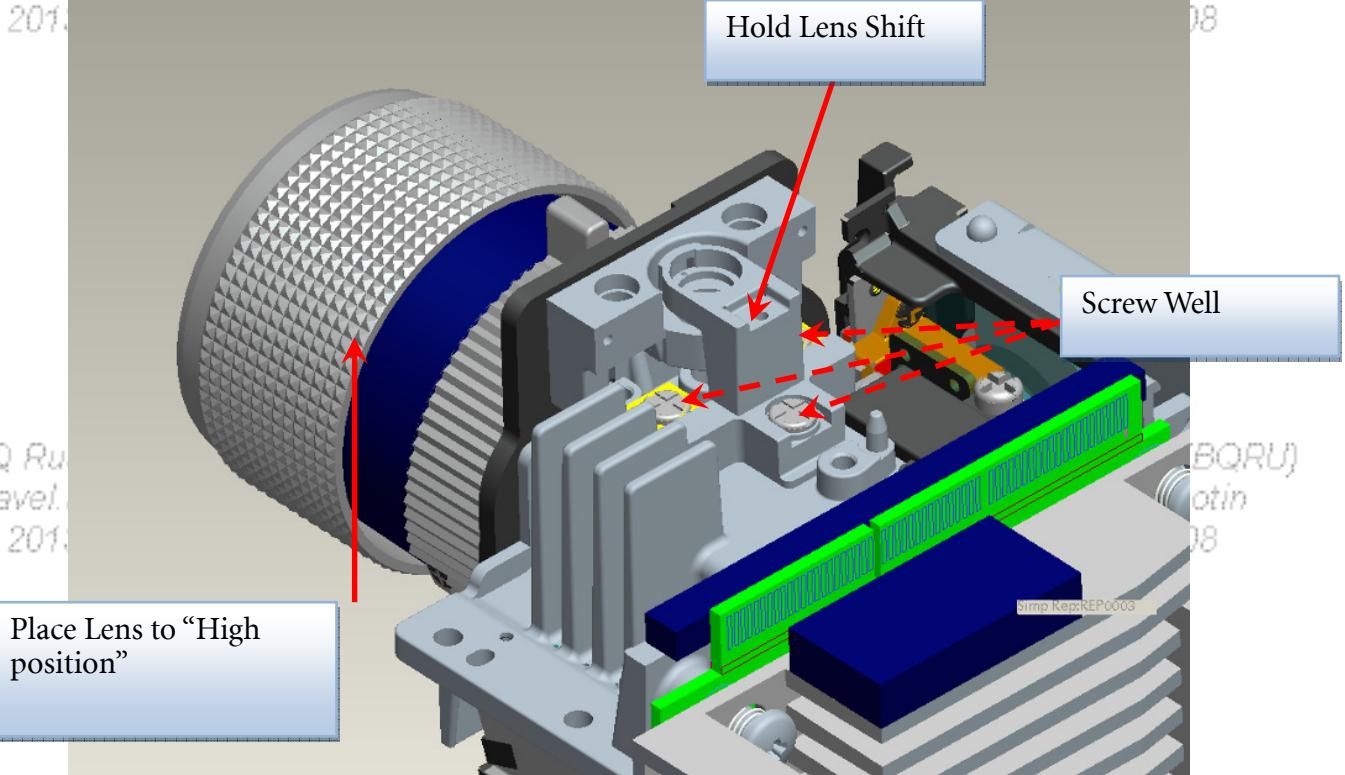

Fig.6-1
6.1. Assemble "Hold Lens Shift" and Screw well (Fig. 6-1)